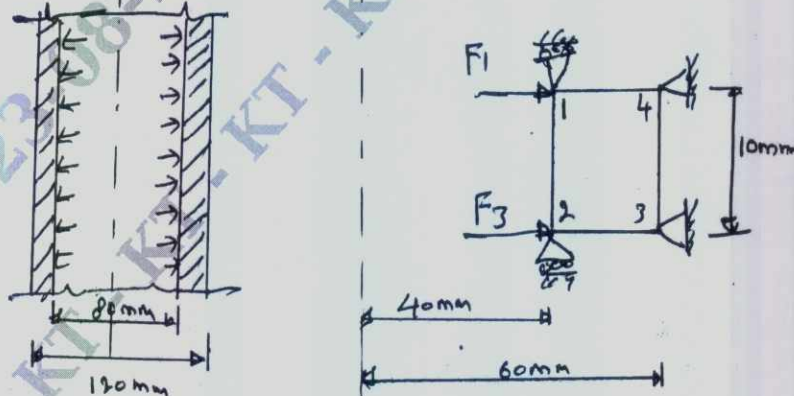

Fig.Q9
- 9 In Fig.Q9, a long cylinder of inside diameter 80 mm and outside diameter 120 mm snugly fits in a hole over its length. The cylinder is then subjected to an internal pressure 2 MPa. Using two elements on the 10 mm length, find the displacements at the inner radius. Take $E = 200 \text{ GPa}$, $\gamma = 0.3$.